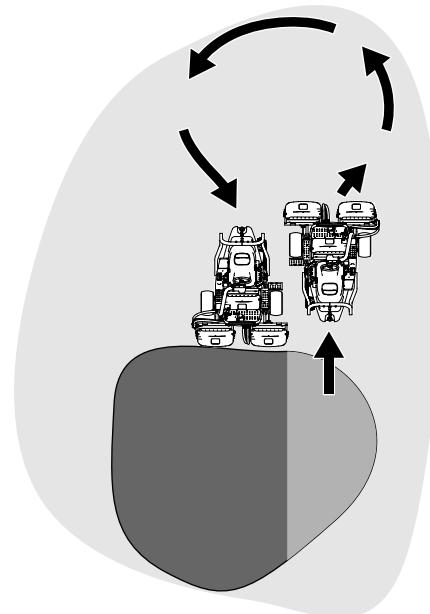

Figure 27
- To cut down on operating time and to ease the lineup for the next pass, momentarily turn the machine in the opposite direction, then turn it in the direction of the uncut portion. This movement is a tear-shaped turn (Figure 27), which quickly lines the machine up for your next pass.